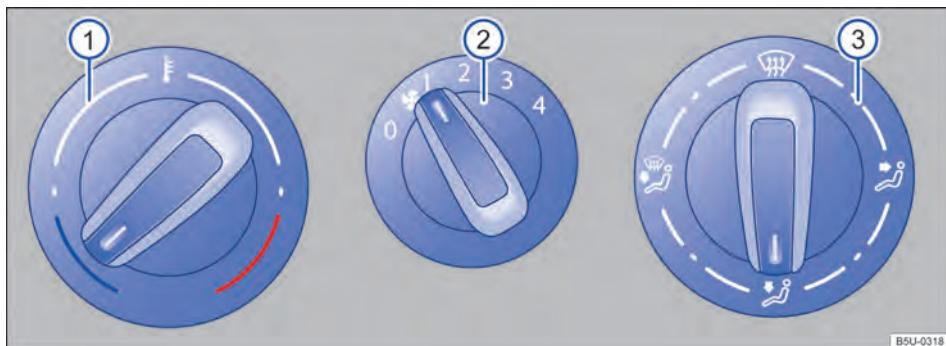

Fig. 74 Ventilation and heating system controls.
- *Heating and ventilation system*: turn the blower knob to level 0 → Fig. 74 ②.
- *Heating and ventilation system*: turn the left knob → Fig. 74 ① to adjust the temperature.
- *Heating and ventilation system*: turn the blower knob → Fig. 74 ②.
- *Heating and ventilation system*: rotate the right regulator → Fig. 74 ③ to the desired position.
- In vehicles with heating system, turn the temperature knob → **Fig. 74** ① completely to the right, to the maximum heating setting.
- Set the air recirculation controller ③ into position .
- Turn the blower knob ② to level 3 or 4.